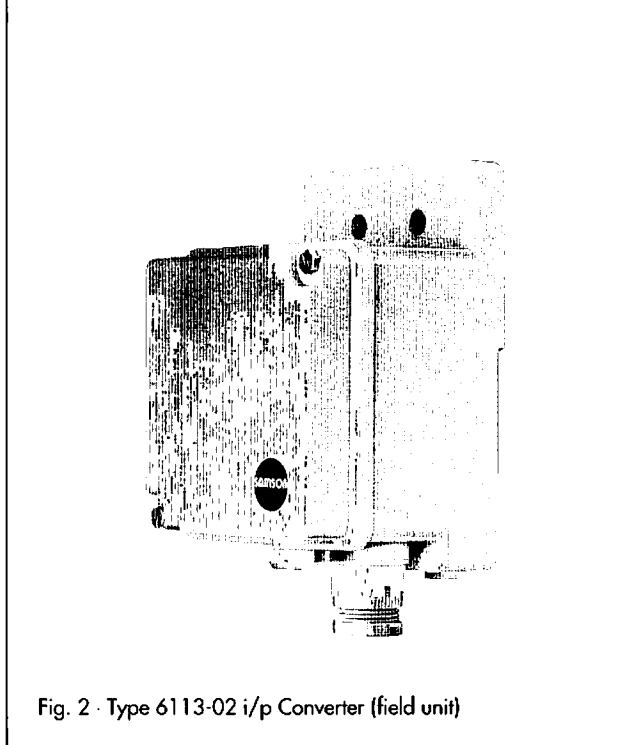

Fig. 2 · Type 6113-02 i/p Converter (field unit)
**Type 6113-02** i/p Converter (Fig. 2) - Field unit conceived for either wall or tube mounting; air connections with tapped hole connection NPT 1/4
The splash-proof enclosures of the field units illustrated in Fig. 2 are suitable for field installation.